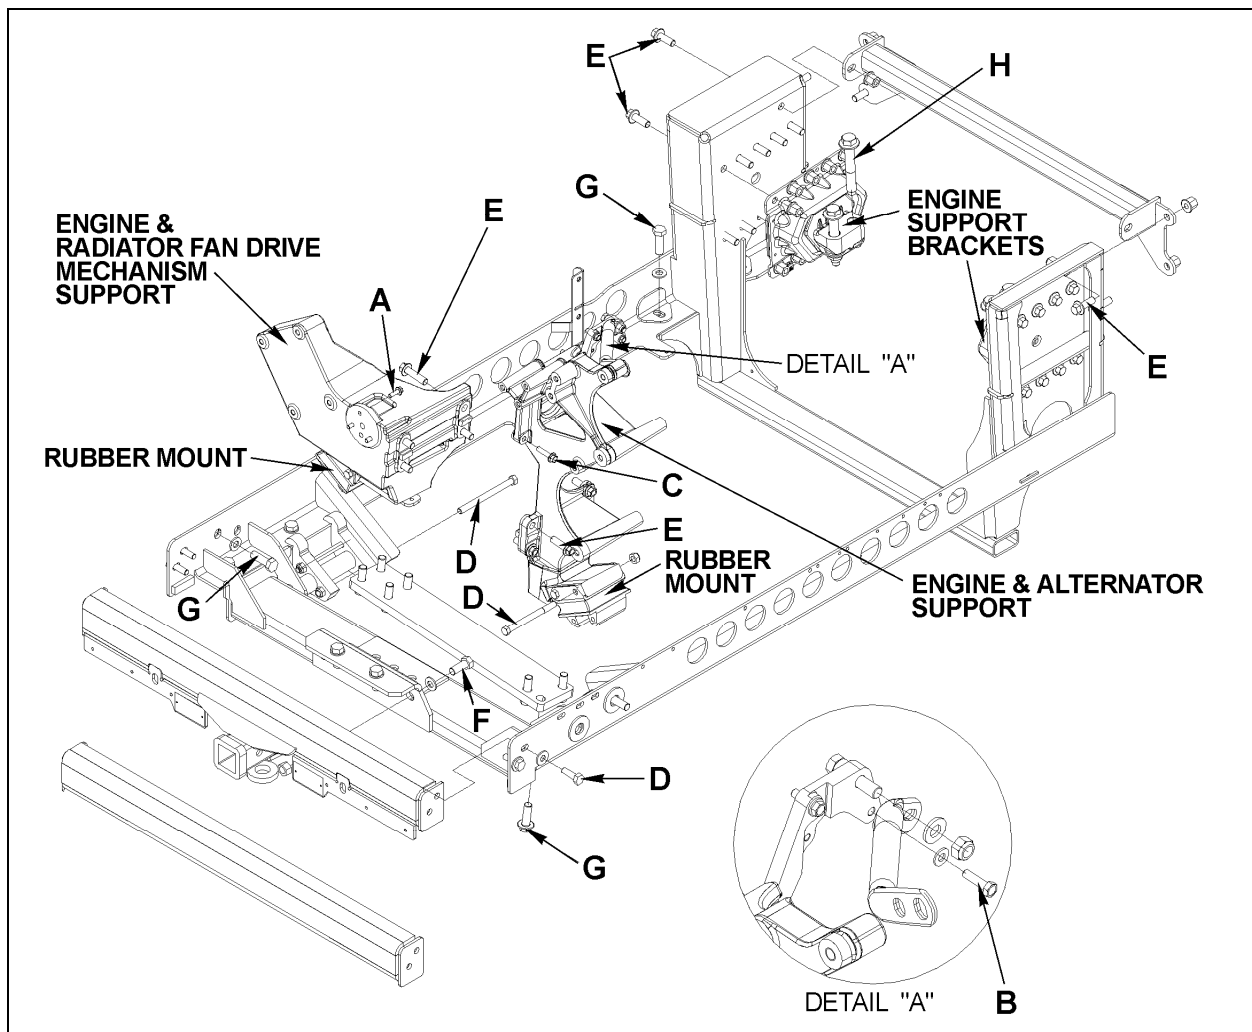

FIGURE 13: VOLVO ENGINE POWER PLANT CRADLE INSTALLATION
2. Make sure the ten retaining bolts, washers and nuts securing the power plant cradle to the vehicle rear subframe are removed (Fig. 13).
Two engine support brackets are used at the front of the engine while two rubber mounts are mounted underneath the engine & radiator fan drive mechanism support and the engine & alternator support (Fig. 13).